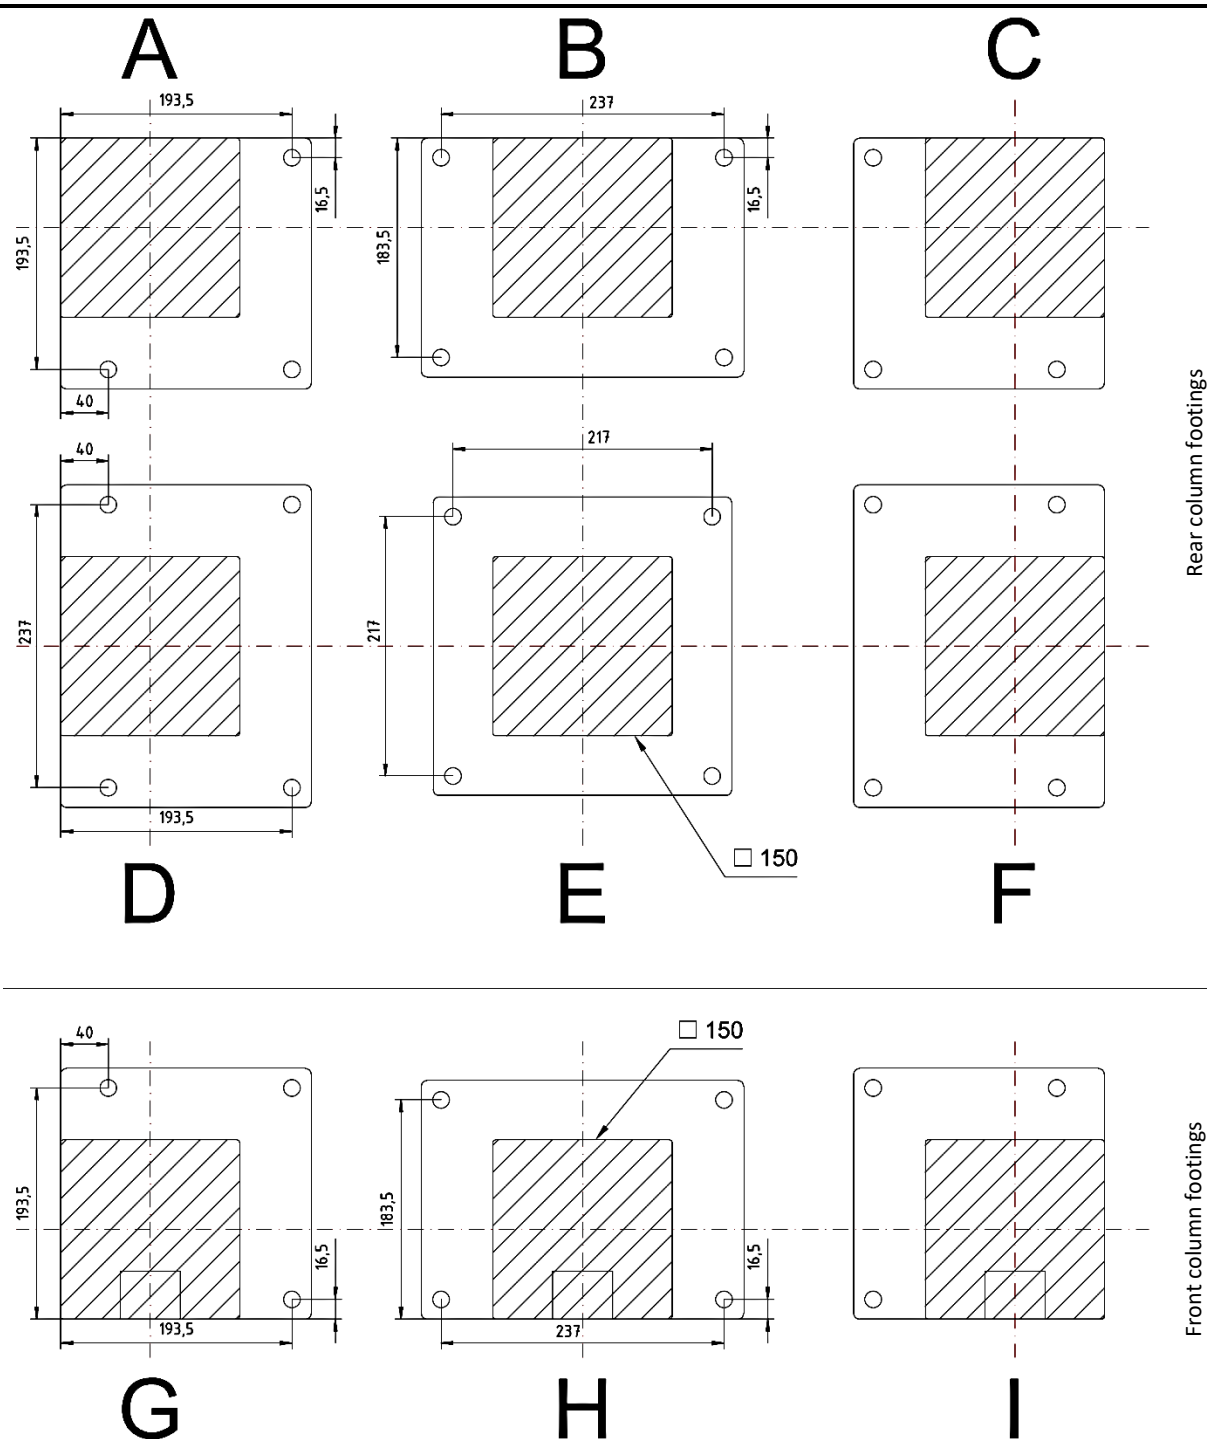

Fig. 4. Hole spacings for anchoring in Pergola SB500 footings
- There should be places for anchors where the Pergola SB500 support structure is installed. Hole spacings and locations for the structure to be anchored are shown in Figure 4.